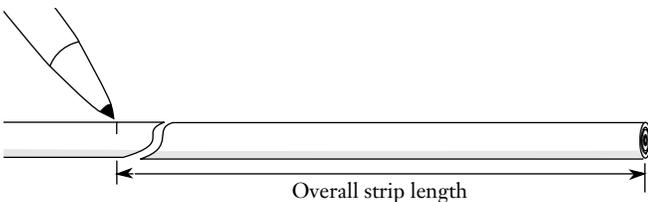

Figure 2
4.1 Refer to the documentation with the product you are installing to obtain the proper sheath removal lengths. Use a measuring tape and a felt tip pen to measure and mark the overall strip length (Figure 2).